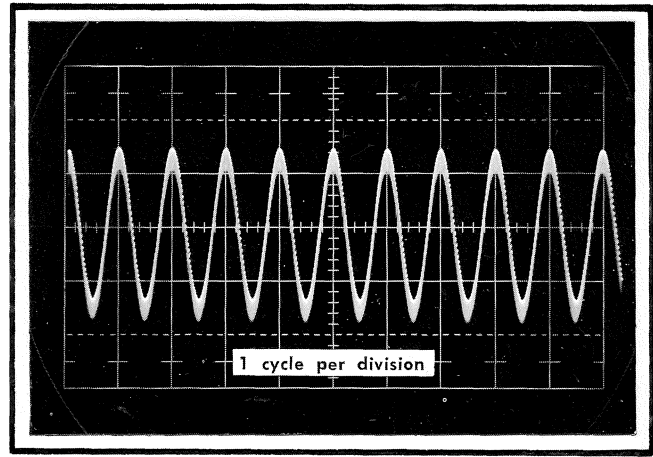

Fig. 7-24. Typical CRT display for checking Dielectric accuracy, step 25.
- i. Adjust the MAGNIFIER VARIABLE for exactly 1 cycle per graticule division. See Fig. 7-24.